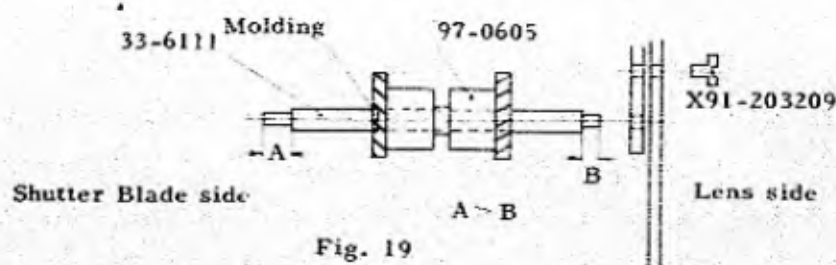

Fig. 19
n.b. Pay attention to Shift Gear position when detaching the Gear. See Fig. 19.